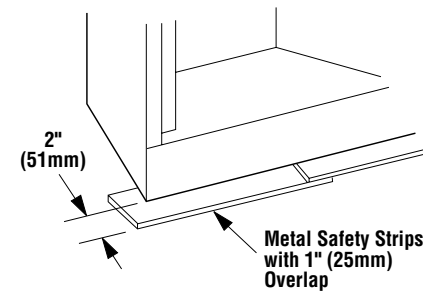

Figure 8
5.1. See **Figure 8, below**. Insert the damper link through the inner transition flange, and then place the inner transition collar over the inner transition flange.
The safety strips should extend from front and sides of the fireplace 2" (51 mm). In the event a wooden support is used to elevate the fireplace above the floor, a "Z" type safety strip should be fabricated and used to protect the front surface of the wood support as well as the floor beneath the hearth extension (see **Figures 8 and 9, below**). The safety strips should be tacked down to prevent possible movement.